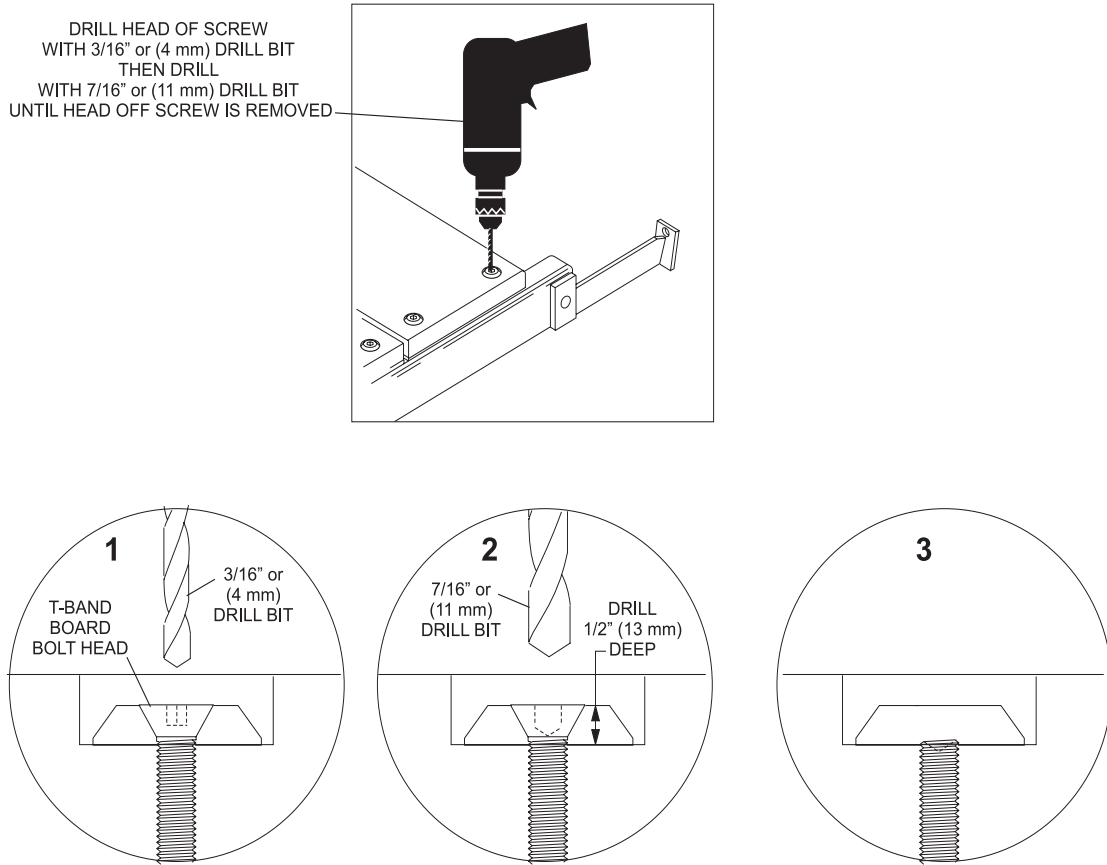

Figure 3
6. Pre-drill the center of the T-band board bolt head with the 3/16" (4 mm) bolt. Drill approximately 1/2" (13 mm) deep. Refer to *Figure 3*.
7. Using the 3/16" (4mm) pre drilled hole, completely remove the T-band board bolt head with the 7/16" (11mm) drill bit. Refer to *Figure 3*.